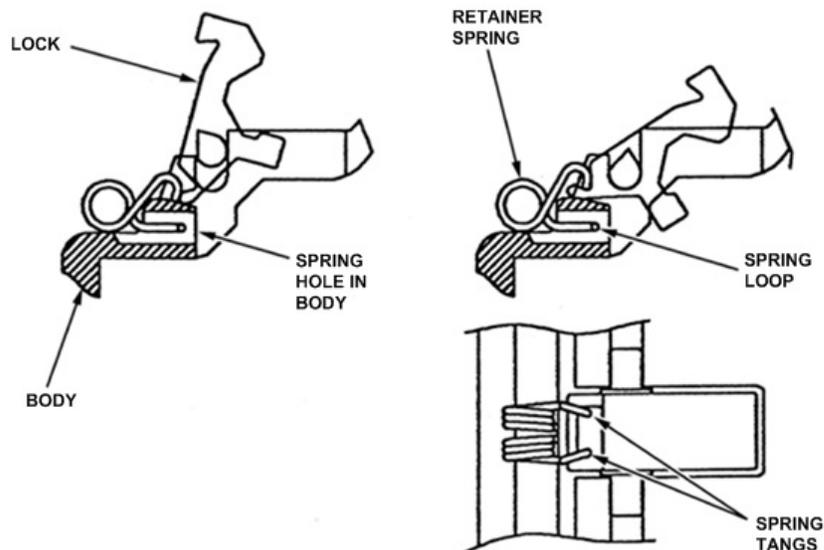

Figure 6. Springs and Locks Installation
- 2) See Figure 6 and install springs (IPL Figure 1, 15) and locks (16) in coupler body (26) as follows: